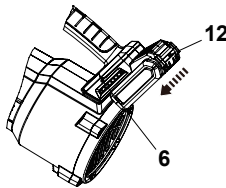

Fig. 2
1. Align the battery pack (12) with the sliding slots of the battery docking port (6) and slide the battery pack (12) in to attach it. Ensure it clicks in place (Fig. 2).